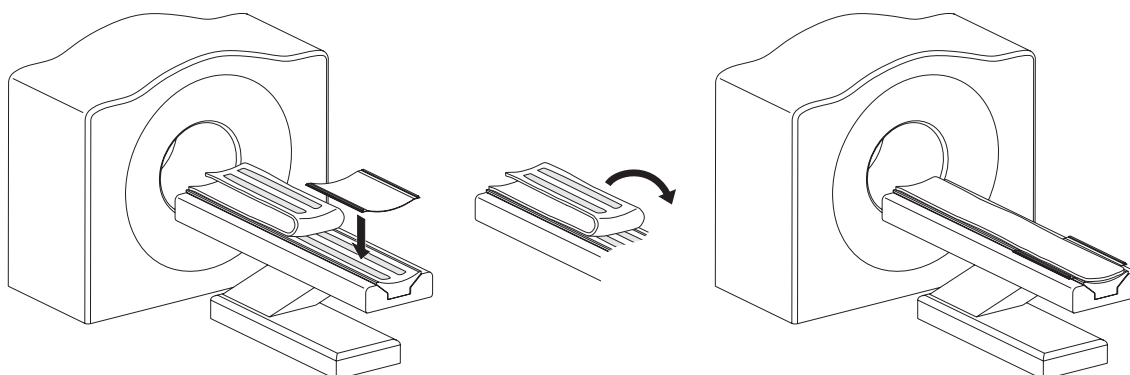

Figure 3-7: Installing a NEUWAVE CT Rail Mount
3. Fold the CT bed mattress back as shown in Figure 3-7.